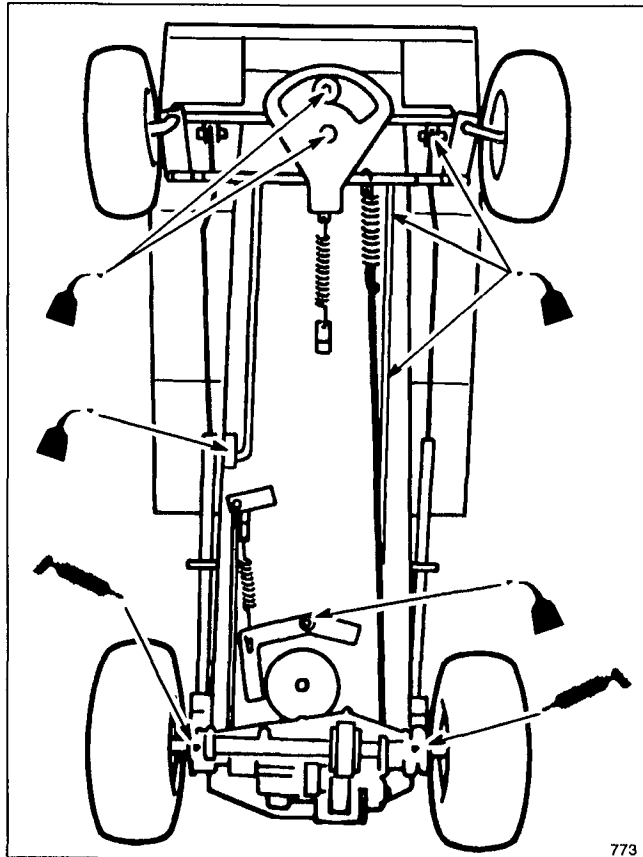
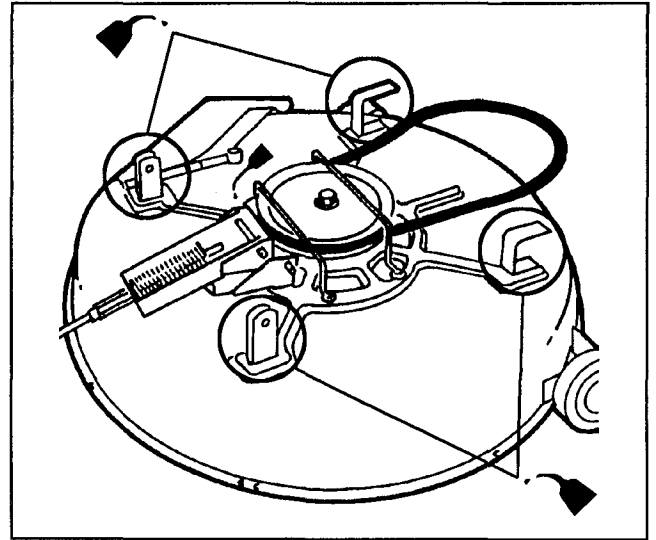

Figure 15
Figure 16
4. Lubricate rear axles with one to two pumps of No. 2 general purpose grease. The zerks are located just inside of the rear tires on the bottom of the trans-axle (Fig. 15).
7. Lubricate pivot points in the steering, drive, brake, clutch, and deck engagement linkage with light oil (Fig. 15). Also lubricate mower housing (Fig. 16). Wipe up any excess oil.